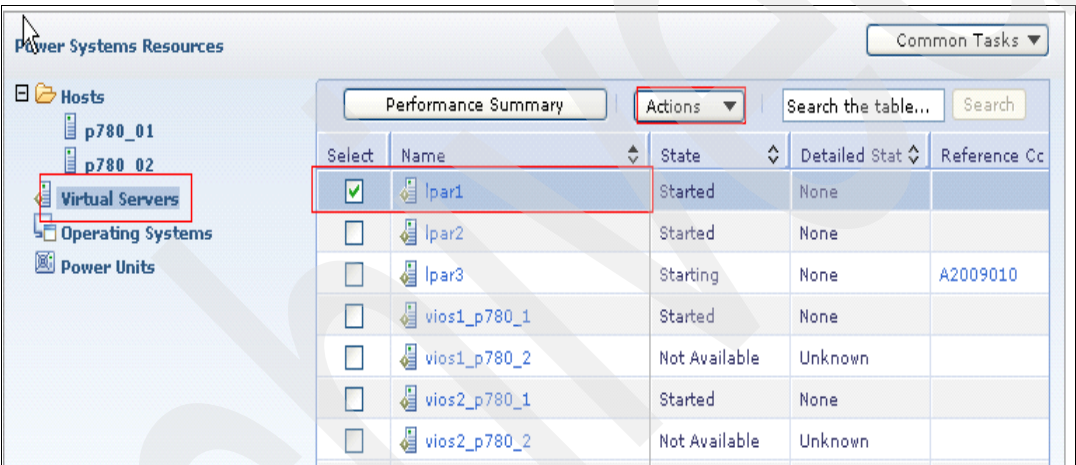

Figure 2-36 Selecting Actions on an LPAR
- 1. Log on to the **SDMC** and select **Virtual Servers** → **Virtual LPAR** → **Actions**, as summarized and shown in Figure 2-36.